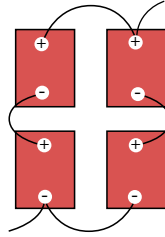

FIGURE 2:
**To increase capacity and voltage, connect the batteries in series parallel as shown in Figure 2.**